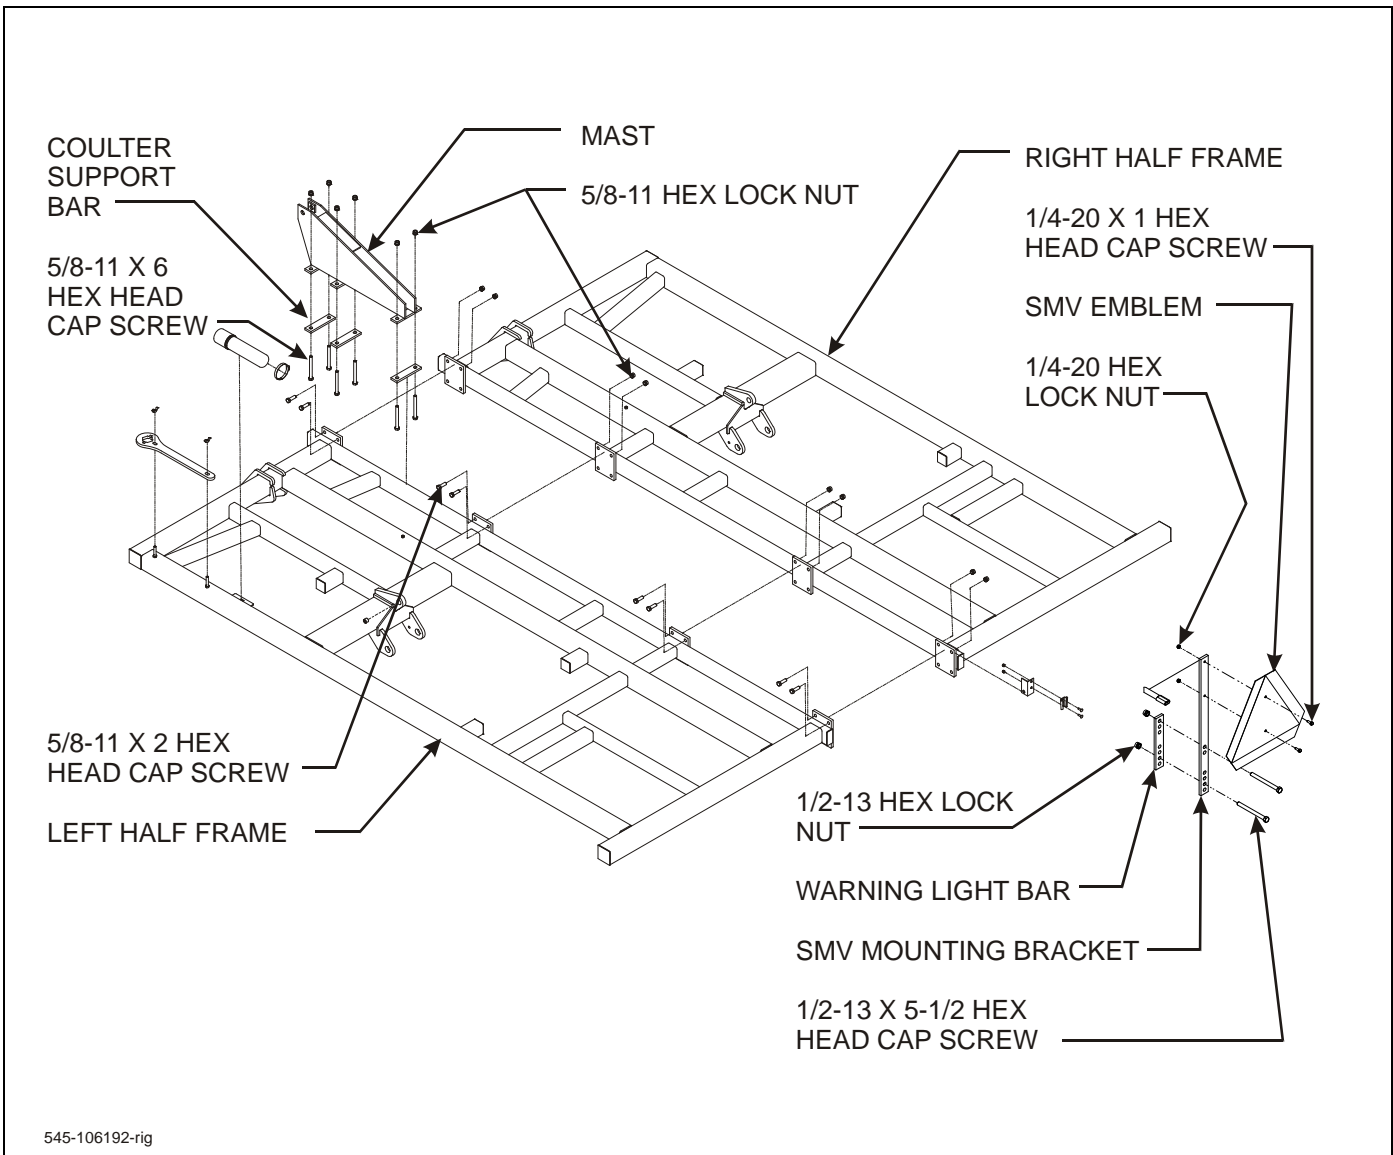

Figure 3-1: Frame Assembly - Rigid Models
1. Bolt frame halves together using 5/8-11 x 2 hex head cap screws and hex lock nuts (See Figure 3-1.)